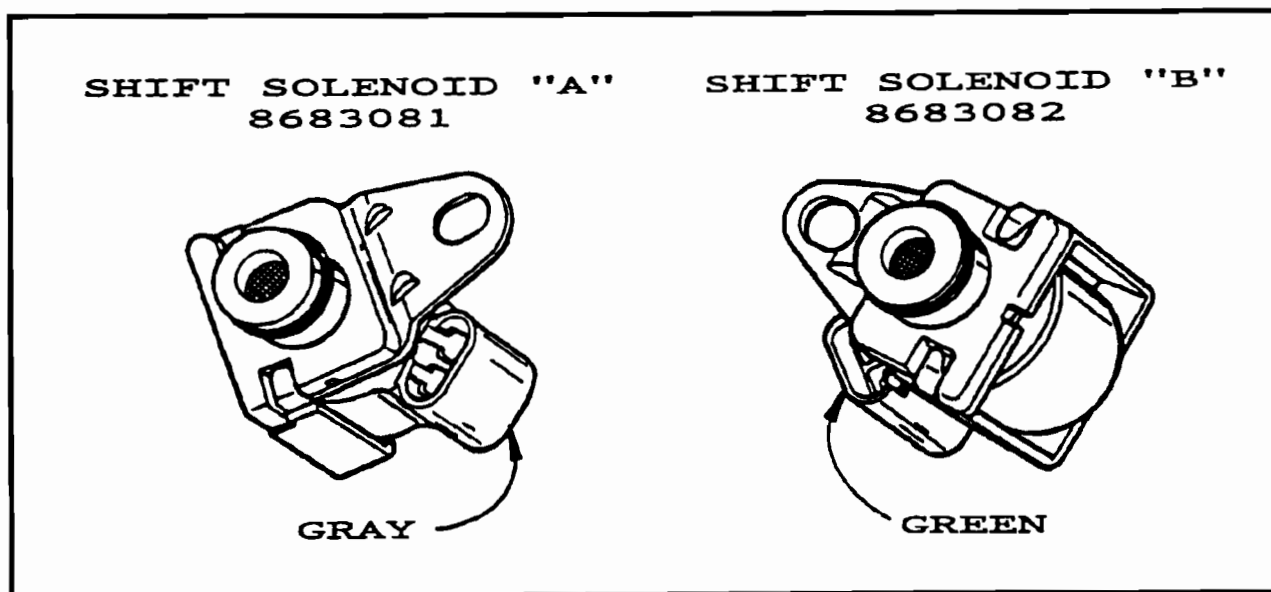

Figure 31
- (1) SHIFT SOLENOID "A" - Revised to incorporate reversible diaphragm, increased coil wire size, and inlet filter screen within the solenoid. Shift Solenoid "A" is now GRAY in color, instead of the previous Blue (See Figure 31).
- (2) SHIFT SOLENOID "B" - Revised to incorporate reversible diaphragm, increased coil wire size, and inlet filter screen within the solenoid. Shift Solenoid "B" is now GREEN in color, instead of the previous Red (See Figure 31).